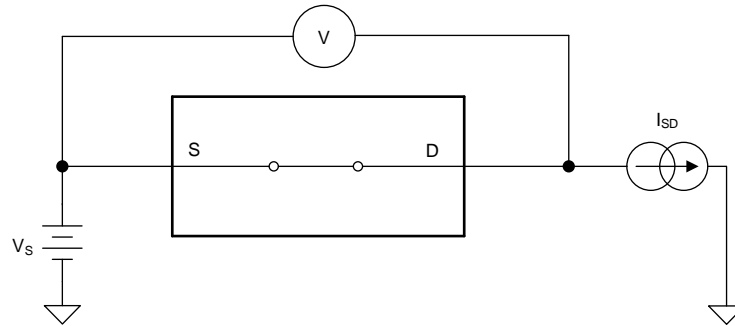

图 16. On-Resistance measurement setup
The on-resistance of a device is the ohmic resistance between the source (S) and drain (D) pins of the device. The on-resistance varies with input voltage and supply voltage. The symbol  $R_{ON}$  is used to denote on-resistance. The measurement setup used to measure  $R_{ON}$  is shown in 图 16. Voltage (V) and current ( $I_{SD}$ ) are measured using this setup, and  $R_{ON}$  is computed with  $R_{ON} = V / I_{SD}$ :